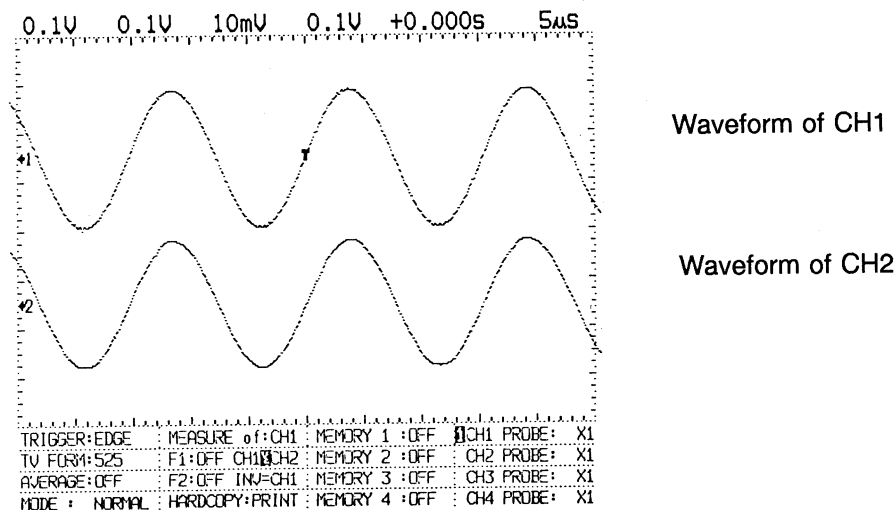

Fig. 6-35 Example of CH1 vs CH2 selected by operation 1 (F1)
(6) Voltage vs voltage display (VERSUS)
- An example of the voltage vs voltage display (VERSUS) is shown in Fig. 6-35.